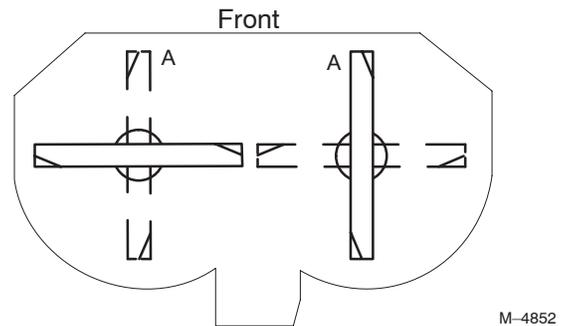
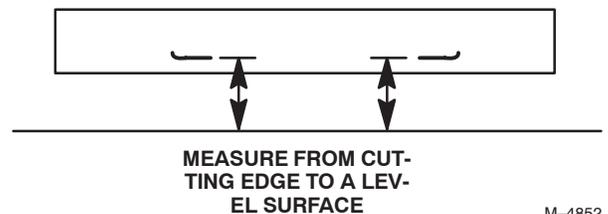

Figure 49
Figure 50
3. With the machine on level surface, position one blade front-to-rear (Fig. 49). Measure at **A** from level surface to the cutting edge of the blade tips (Fig. 50).